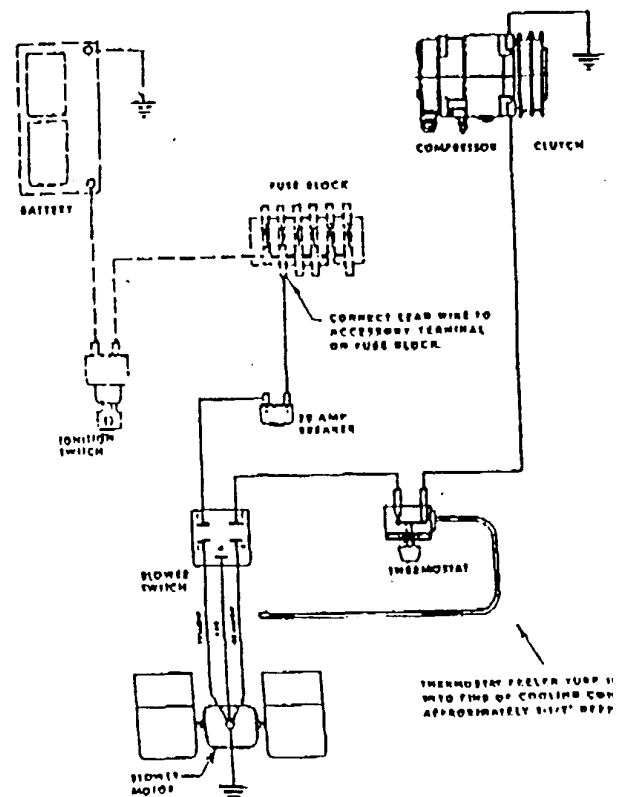

FIG. 2
6. Reference the "WIRING DIAGRAM": (FIG. 2)